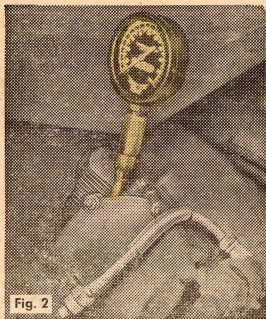

Fig. 2
2. Then he screws out #1 right spark plug and screws in a compression gage (41G-124) (Fig. 2).